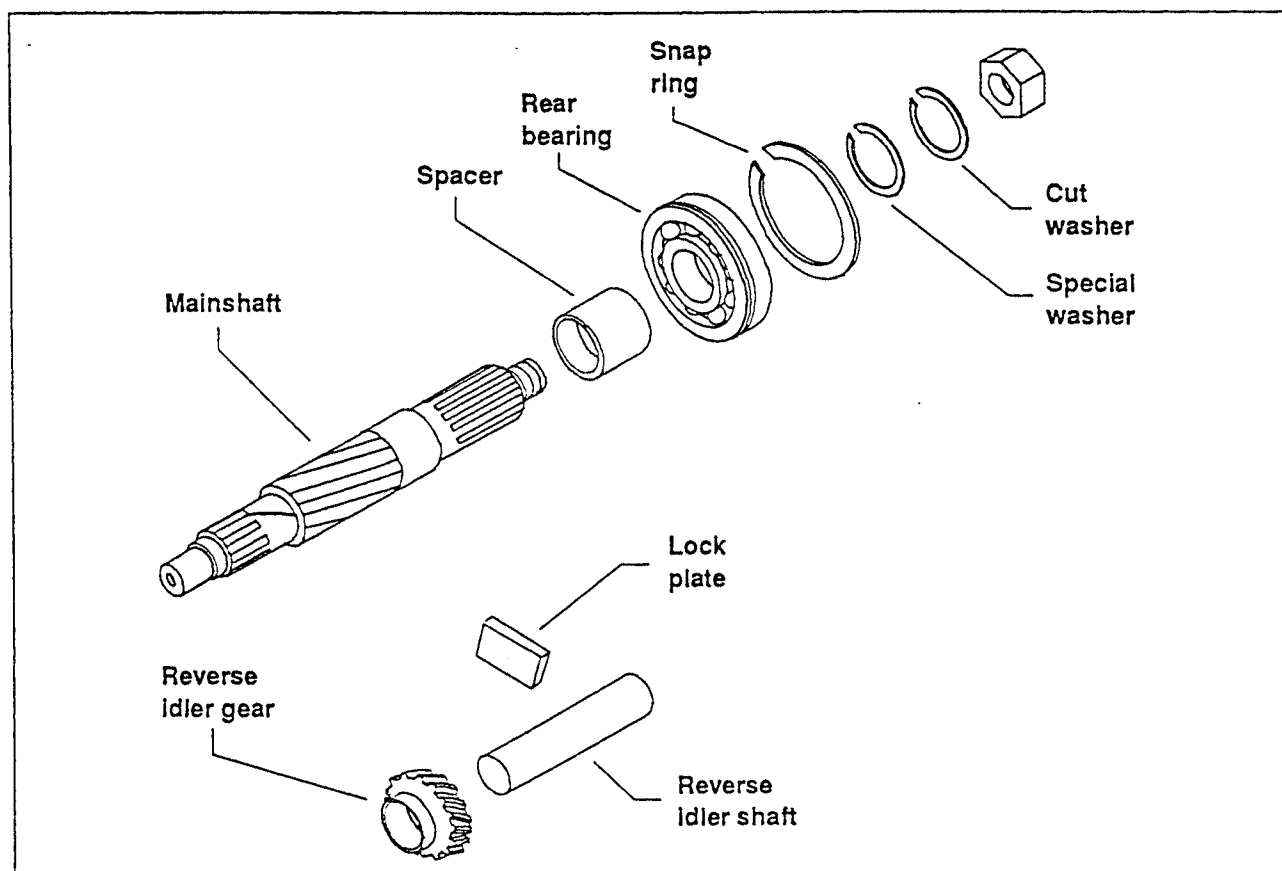

Figure 39 Mainshaft gear assembly
- 9** Remove mainshaft nut (Figure 39).
- 11** Replace any worn roller bearings (Figure 39).
- 14** Remove the mainshaft and rear bearing from the rear of the transmission case (Figure 39).
- 15** Remove lock plate (Figure 39).
- 18** Remove the reverse idler gear by driving the reverse idler shaft out of the transmission case using a soft (brass) drift (Figure 39).
- 19** Lift the reverse idler gear from the transmission case (Figure 39).
**6** Install lock plate into position (Figure 39).
**7** Press transmission rear bearing onto the mainshaft and install snap ring and washers (Figure 39).
- 14** Move the mainshaft rear bearing into the transmission case and align the shifter forks and gears into its bearing in the main drive gear (Figure 39).